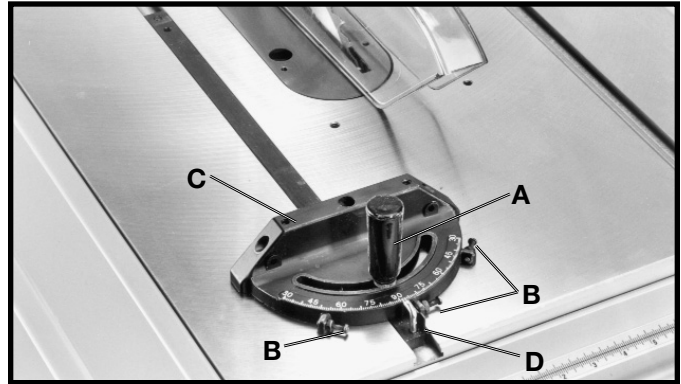

Fig. 48
The miter gage is equipped with adjustable index stops at 90 degrees and 45 degrees right and left. The index stops can be adjusted by tightening or loosening the three adjusting screws (B) Fig. 48.
To rotate the miter gage, loosen lock knob (A) Fig. 48, and move the body of the miter gage (C) to the desired angle.
The miter gage body will stop at 90 degrees and 45 degrees both right and left. To rotate the miter gage body past these points, lift the stop link (D) Fig. 48, up and out of the way.